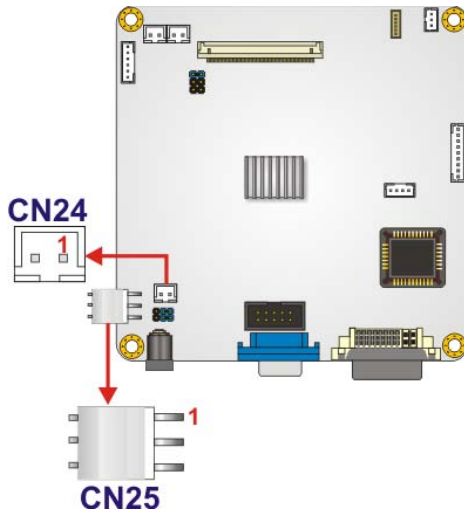

Figure 4-33: Power Input Connector Locations
- CN Location: See Figure 4-33